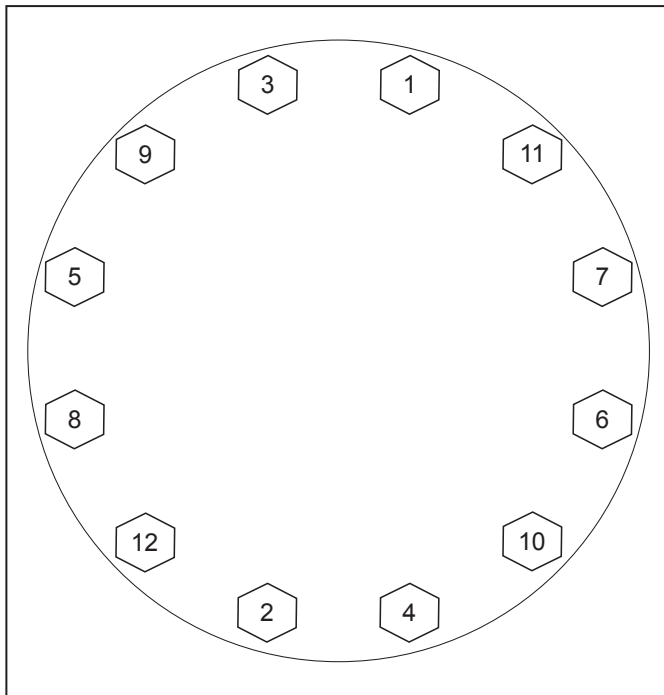

Figure 3. Twelve Bolt Tightening Sequence
7. For metallic liquid ends, apply anti-seize to the diaphragm head bolts. Install the diaphragm head bolts in accordance with the following torque specifications. Bolts should first be torqued, in the sequence shown in the appropriate figure (*figure 3 or 4*) to one half of the value shown below. Following the same sequence, each bolt should then be torqued to the above final value. The pressure is the maximum discharge pressure listed on the pump nameplate. The bolt torque value stamped on the head only applies to the material grade supplied with the pump.